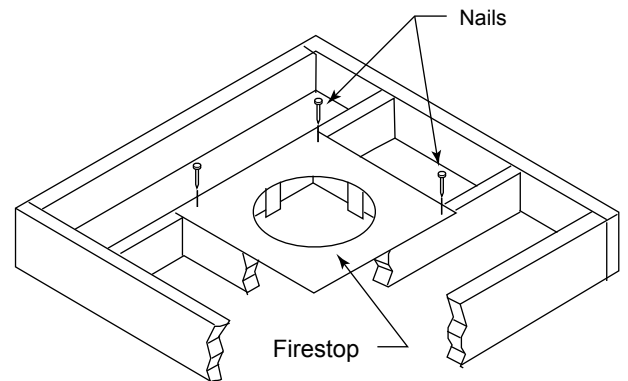

Figure 24 - If Area Above is a Room, Install Firestop above Framed Hole as Shown
1. Determine the route your vertical venting will take. If ceiling joist, roof rafters or other framing will obstruct the venting system, consider an offset. Refer to Figure 24 to avoid cutting load bearing members.
NOTE: Pay special attention to these installation instructions for required clearances (air space) to combustibles when passing through ceilings, walls, roofs, enclosures, attic rafters, etc. Do not pack air spaces with insulation. Also note maximum vertical rise of the venting system and any maximum horizontal offset limitations. Offsets must fall within the parameters shown in Figures 24 and 25.